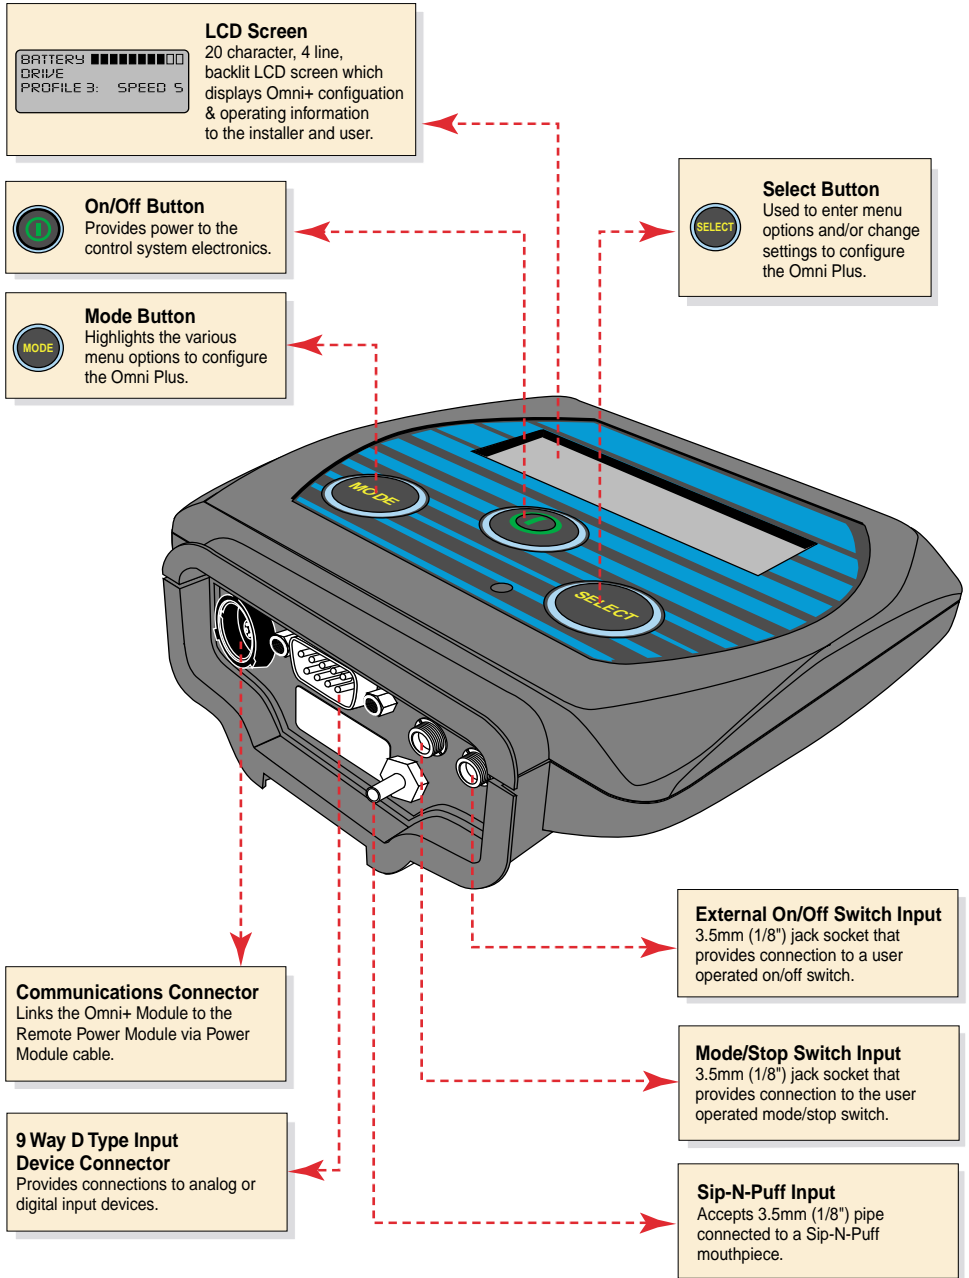
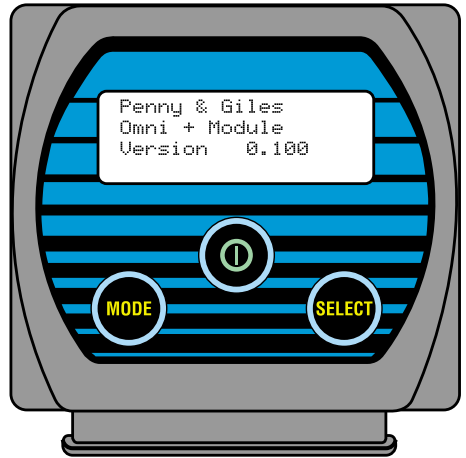
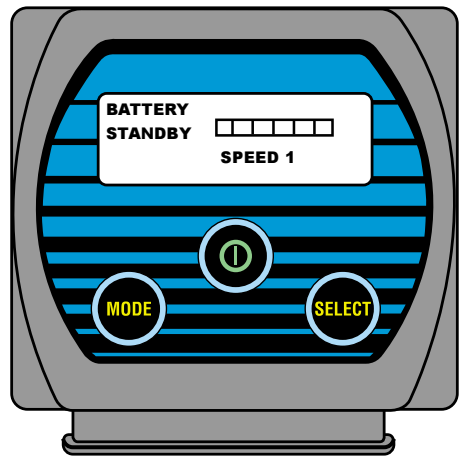
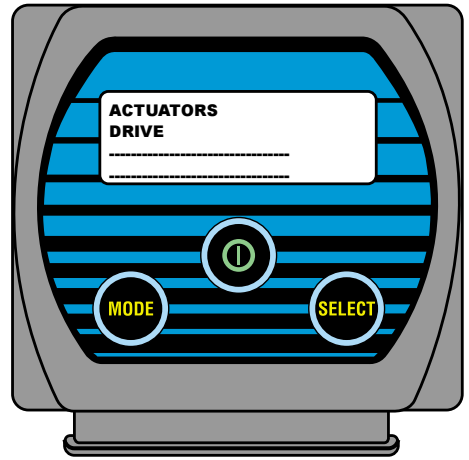

Figure 1. Omni Plus Components and Connections
Figure 2. Power-up Display
Figure 3. Standby Mode Display
Figure 4. Actuator/Drive Menu
Figure 1 provides information on the Omni Plus components and connections. Use this diagram to familiarize yourself with the function and location of each component before using the Omni Plus Module.
To operate the drive selection function, power up the control system using the **On/Off Button** or the switch plugged into the external on/off input on the bottom of the Omni Plus. See figure 1. The display will be similar to that shown in figure 2.
*NOTE: After the initial display in figure 2 is shown, the display will change to the **Standby Mode** shown in figure 3. This display will change in appearance depending on the input device used.*
To increase or decrease the displayed drive speed, press the **Mode Button**, or activate the external mode switch that is plugged into the mode/stop input on the bottom of the Omni Plus. See figure 1. When SPEED 1 on the Omni Plus display flashes, a **right** command on the input device will increase the speed to 2. If the display flashes when in SPEED 2, a **left** command on the input device will decrease the speed to 1. These right and left commands will increase or decrease the drive speed while in drive selection mode.
To operate the actuator selection function, display the ACTUATORS menu option. Press the **Mode Button** or the external mode switch plugged into the mode/stop input (see figure 1) twice. Apply a **forward (up)** command or a **reverse (down)** command to the input device to select between Actuators, Drive and ACM. Use the **Select Button** or a **right** command to choose ACTUATORS, then press the **Mode Button**. The screen will display as shown in figure 4.